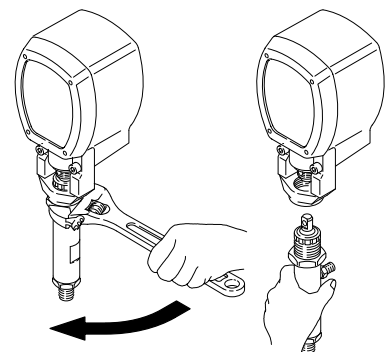

Fig. 15
5. Loosen the locknut (38) and unscrew the pump from the bearing housing (27). See Fig. 15.